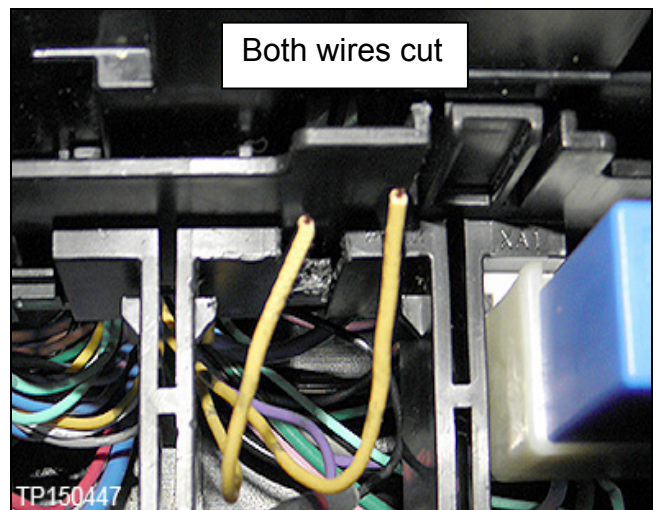

Figure 6
7. Cut the yellow wires flush with the bottom of the stop lamp relay connector (Figure 6).